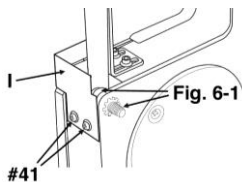

Fig. 6
3. The screws to attach the lower belt guard (I) are assembled to the frame for shipping purposes. Remove these screws (#41) and attach the lower belt guard (Fig. 6).